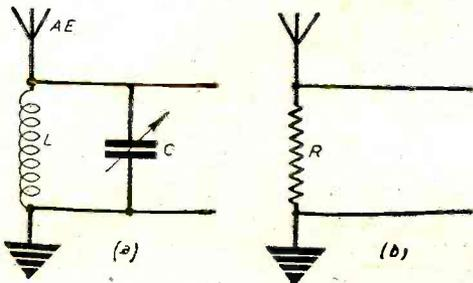

Fig. 1.—How is the aerial tuned? At resonance, the coil and condenser in parallel act as a high resistance R, (b), of the order of 100,000 ohms.
**W**HAT is the correct explanation of aerial tuning by a coil and condenser in parallel as in Fig. 1 (a)? Is this an "acceptor" or "rejector"?
Fig. 1 (a) appears as an exact equivalent of this, where the "alternator" is the e.m.f. "source" constituted by the aerial itself, i.e., E is one of numerous e.m.f.'s generated in the aerial of electromagnetic waves of various frequencies. Are we to say, therefore, that tuning is effected by adjusting the rejector to exact resonance with some desired frequency?
So, "tuning" by this method of parallel coil and condenser apparently means inserting an A.C. resistance of about 100,000 ohms into the aerial circuit at the frequency we desire to receive! The equivalent state of affairs is shown in Fig. 1 (b).
This is a case where voltage magnification is obtained really as a result of energy released from the H.T. supply source. There is nothing of this kind about Fig. 1 (b), and though an H.F. voltage would be developed across R which would reach a maximum at the resonant frequency, it is not the true explanation of the circuit.
It is not true, because if we inserted a sensitive thermo-ammeter in series with the aerial, we would find that the current becomes a maximum at the tuning point, as in an acceptor circuit, and not a minimum as suggested by Fig. 1 (b).